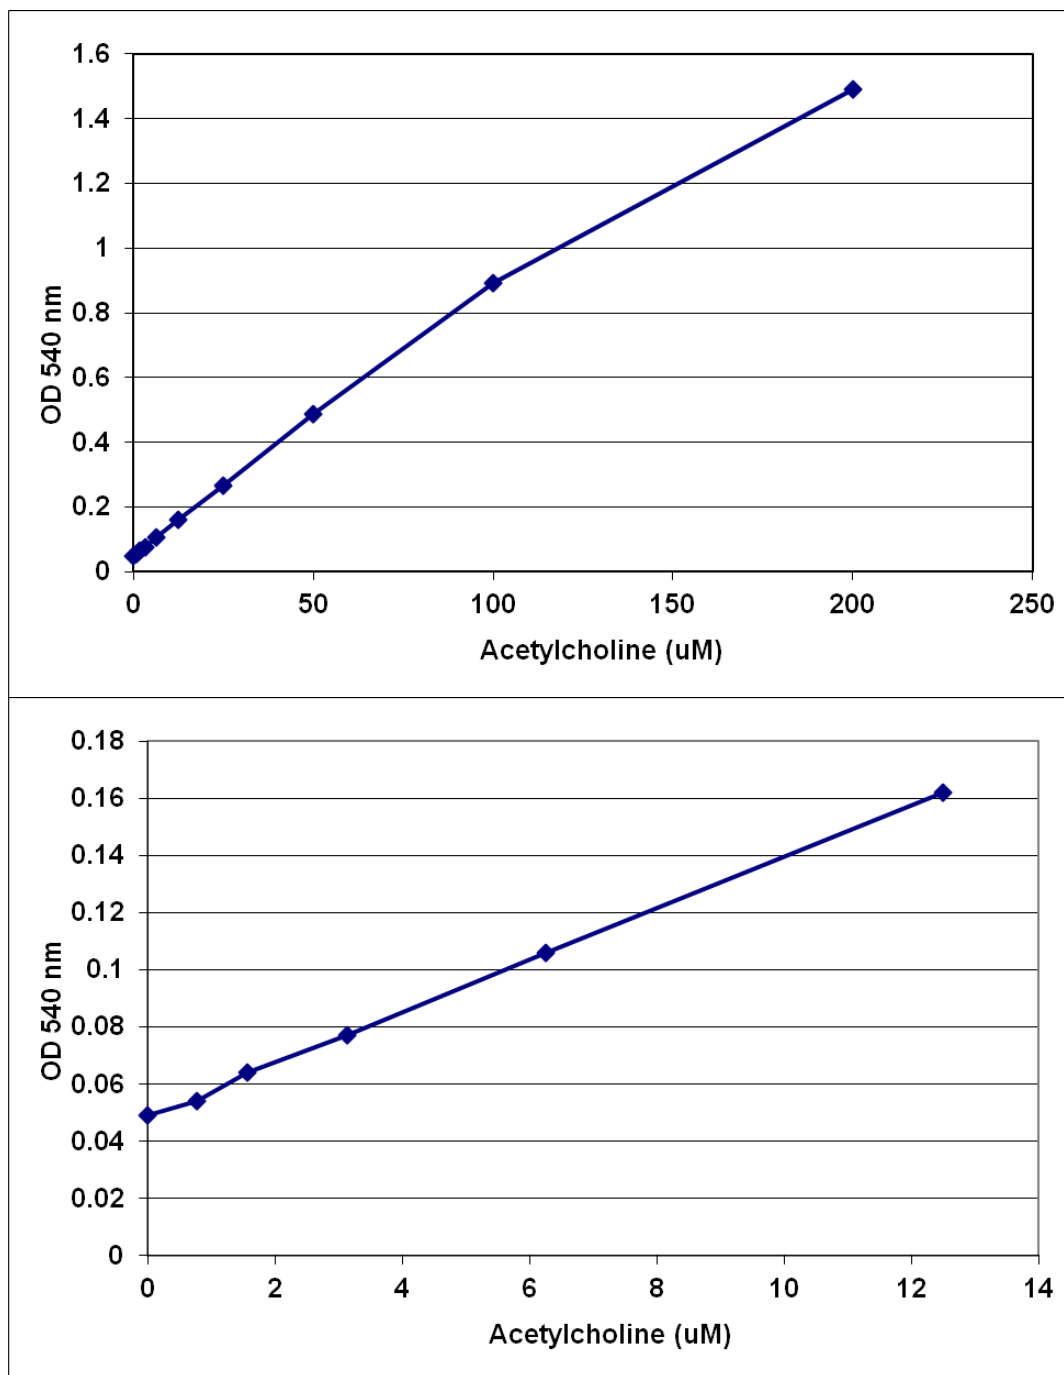

Figure 2: Acetylcholine Standard Curve.
2. Plot the corrected absorbance for the standards against the final concentration of the acetylcholine standards from Table 1 to determine the best curve. See Figure 2 for an example standard curve.